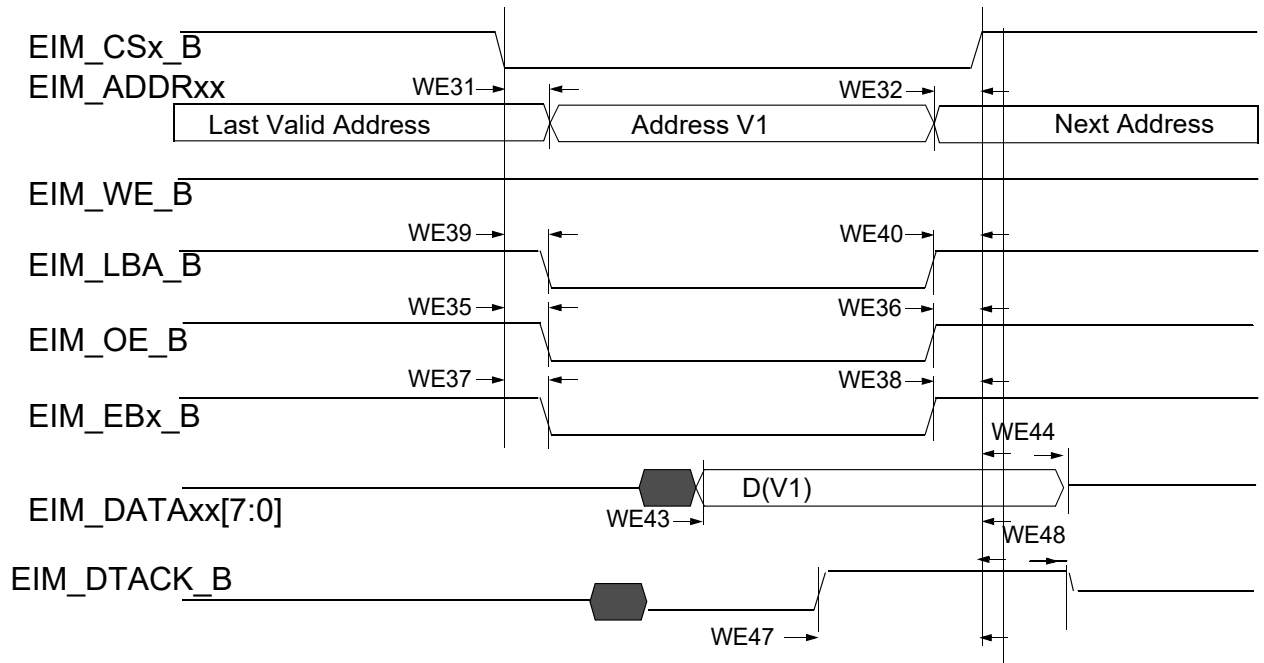

Figure 23. DTACK Mode Read Access (DAP=0)
Figure 19 through Figure 23, and Table 43 help you determine timing parameters relative to the chip select (CS) state for asynchronous and DTACK EIM accesses with corresponding EIM bit fields and the timing parameters mentioned above.